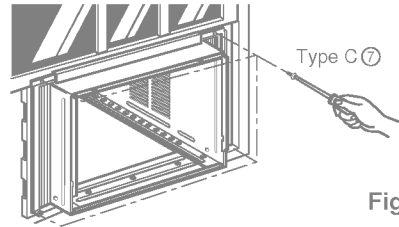

Fig. 6
- Attach each Frame Curtain ① the window sash using screws ⑦ (Type C). (See Fig. 6)